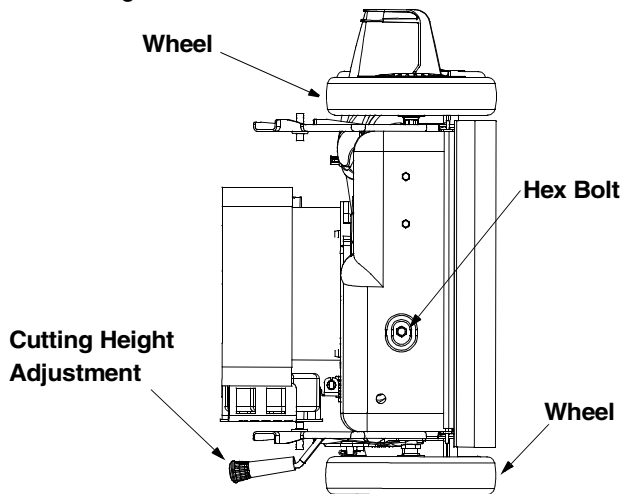

Figure 20
- Remove the hex bolt from the rear of unit holding the transmission to the mower housing. See Figure 20.